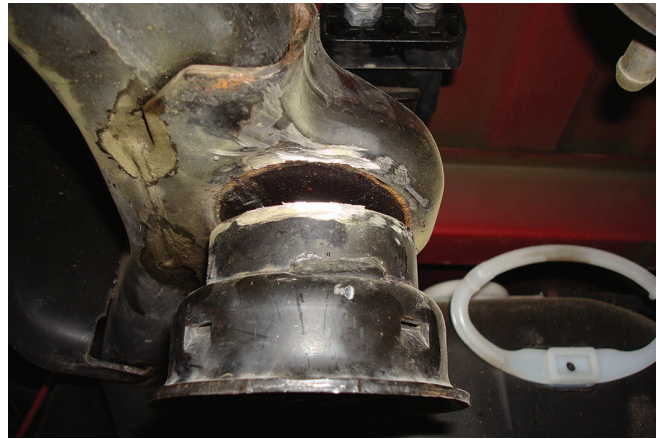

Fig. 5
5. Grind the welds off the jounce bumper cups that attach them to the jounce bumper frame bracket (Fig. 5). Remove from both sides of the vehicle.